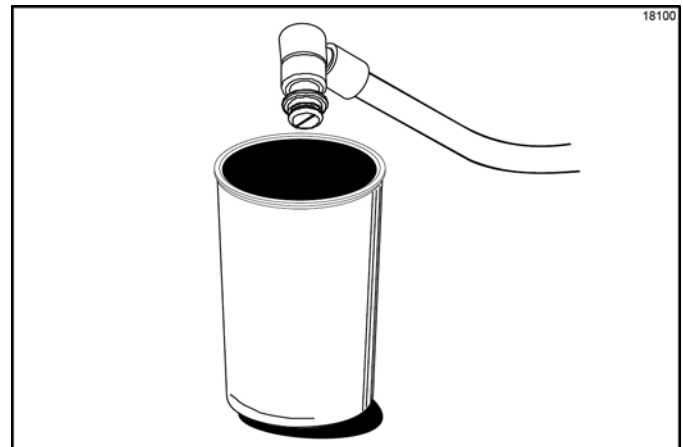

Figure 6-82
19. Each syrup flavor must be primed to purge the air out of the syrup lines. To prime each syrup line, hold the syrup line up over an empty cup. (See Figure 6-82.)